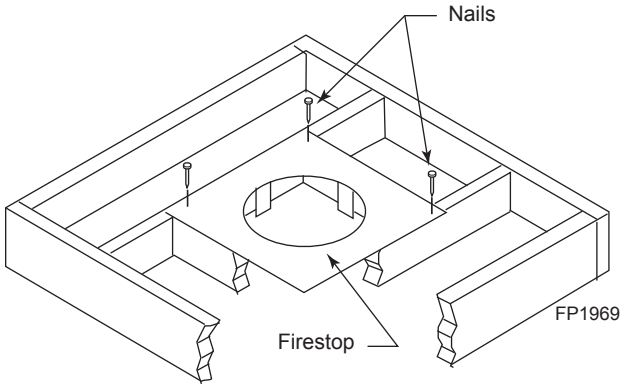
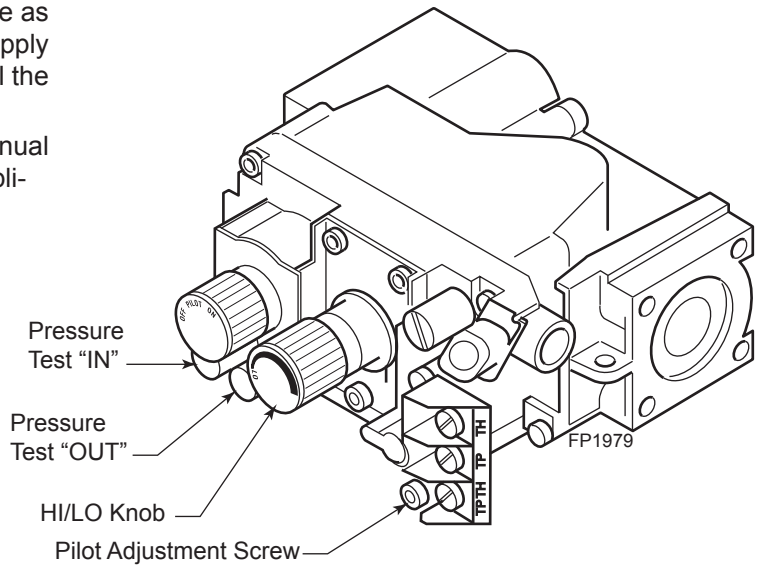

Figure 30 -
Figure 35 - Gas Pressure Check at Gas Valve
side. This prevents loose insulation from falling into the required clearance space. *Figure 30*. Otherwise, install firestop below the framed hole. The firestop should be installed with no less than three nails per side. *Figure 35*.
5. To check gas pressures at valve, turn captured screw counter clockwise 2 or 3 turns and then place tubing to pressure gauge over test point. Turn unit to high. *Figure 35*. After taking pressure reading, be sure and turn captured screw clockwise firmly to reseal. Do not over torque. Check test points for gas leaks.